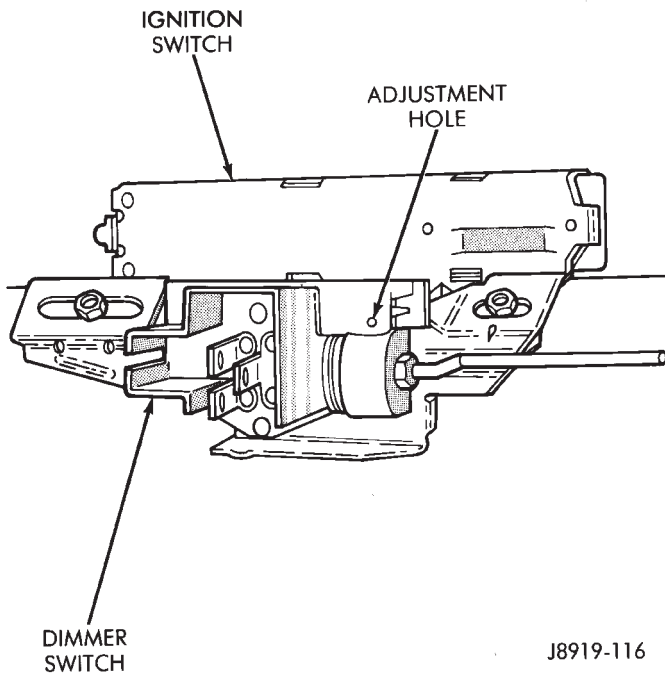

Fig. 8 Ignition Switch & Dimmer Switch
(15) Remove the ignition switch and the dimmer switch (Fig. 8) from the lower end of the steering column.